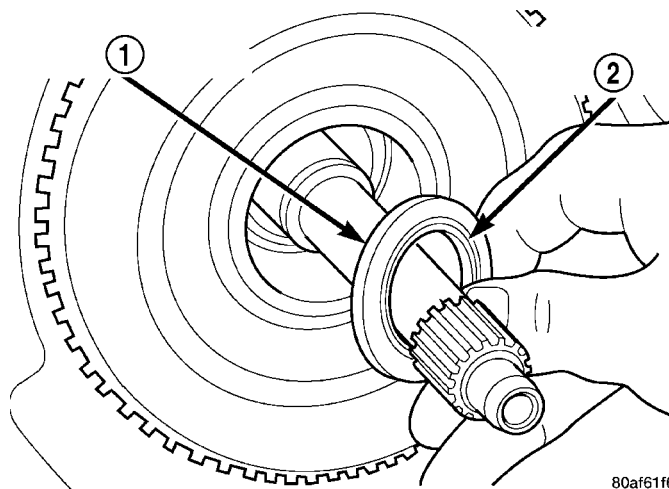

Fig. 144 Install Caged Needle Bearing
(54) Install #1 caged needle bearing (Fig. 144).